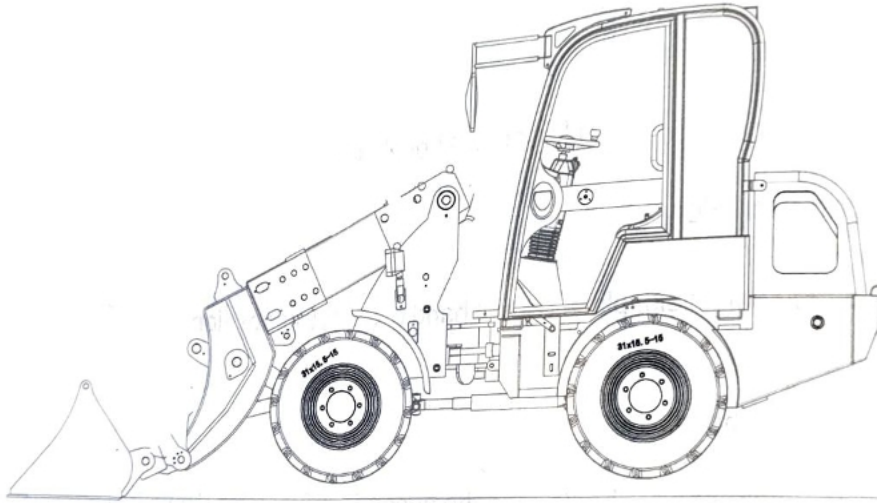

Figure 6-7 Parking status
Step 1: Park loader on a flat field, place control handle in neutral position, stop and pull up parking brake handle, put the blocks before and after the tires, as shown in Figure 6-7;